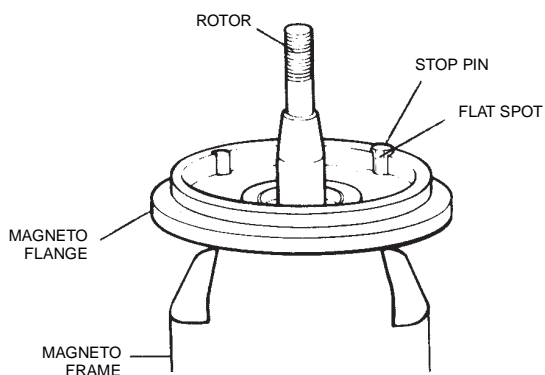

Figure 3.3.4E
1. Inspect the stop pin for looseness, cracks or corrosion. None of these conditions are acceptable. Replace magneto frame as necessary. (See Figure 3.3.4E.)